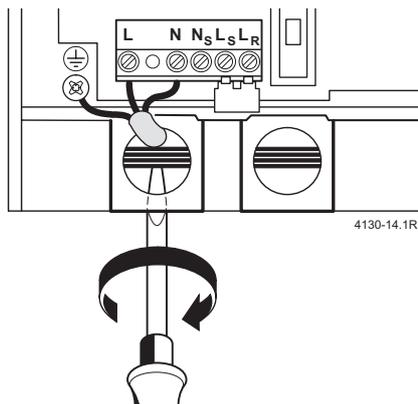

Fig. 27
- ▶ Feed cable through cable grommet and connect the mains supply cable, see fig. 27.